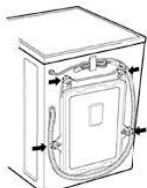

Figure 1
1. To prevent internal damage during transportation, 4 bolts are installed. Before using the machine, the bolts must be removed (see figure 1).